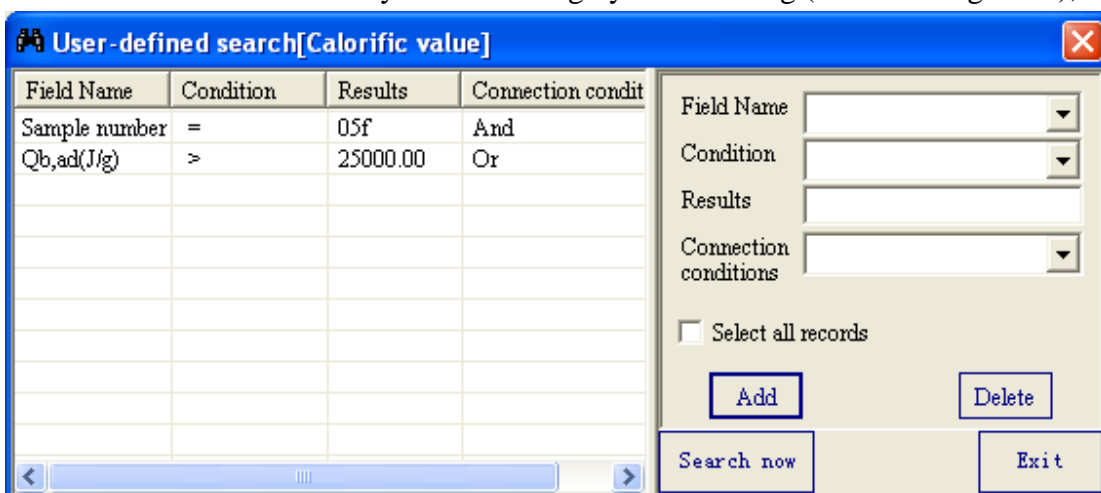

Fig.5-16
- Advanced search: Provide several ways for searching by self-defining (shown as Fig. 5-16);